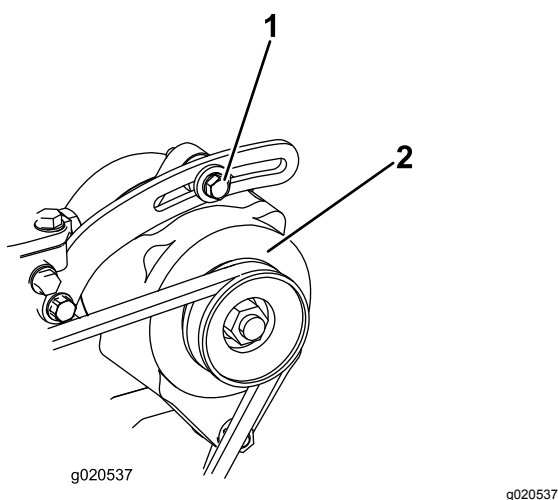

Figure 74
2. If the deflection is not 10 mm (3/8 inch), loosen the alternator mounting bolts (Figure 74). Increase or decrease the alternator belt tension and tighten the bolts. Check the deflection of the belt again to ensure that the tension is correct.